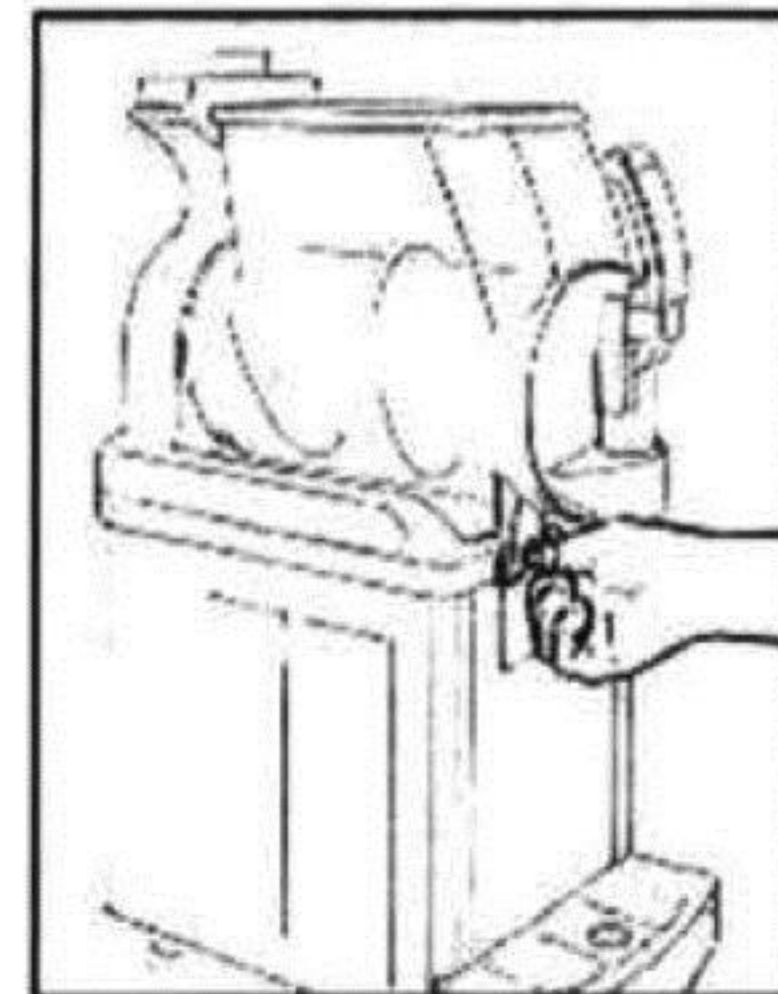

fig.39
- Fix the bowl by reinsert the knobs (fig.39).